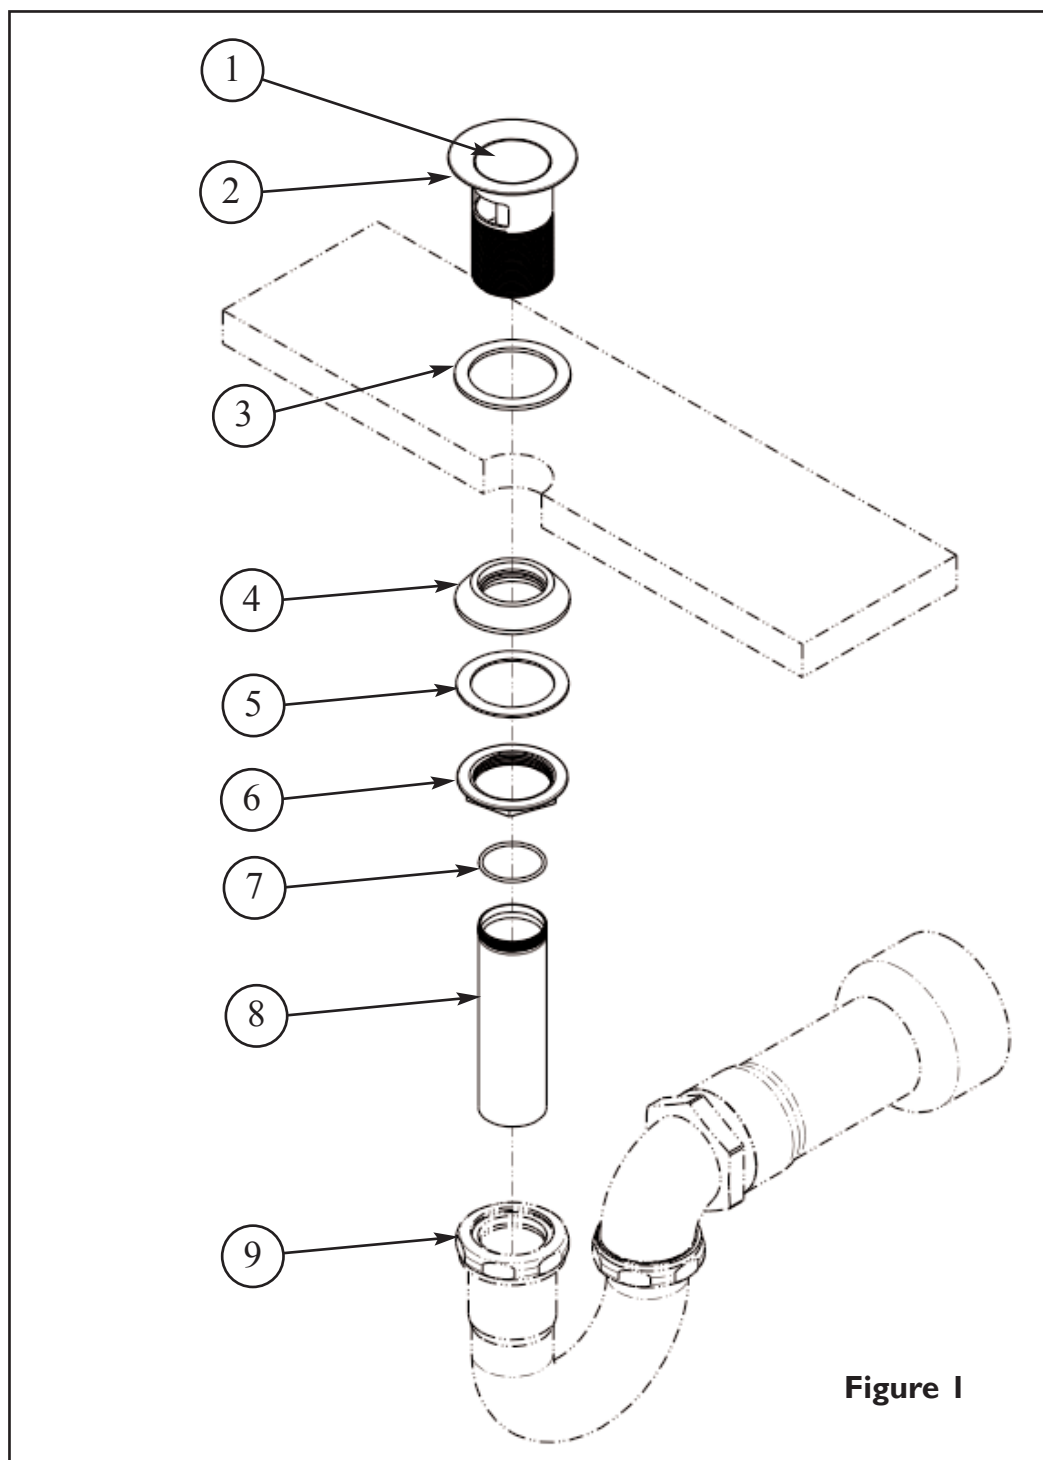

Figure 1
- Do not remove drain PLUG (1) from FLANGE (2). Place FLANGE (2) and white WASHER (3) through sink drain opening. (Clear silicone may be used in place of white washer.) From bottom side of sink, place cone shaped rubber WASHER (4) onto FLANGE (2) and slide up against sink bottom. Note: Cone portion of WASHER (4) to face upward. Next slide on clear flat WASHER (5) and secure with flange NUT (6). Assemble O_RING (7) to TAILPIECE (8) and attach to drain FLANGE (2). Attach TAILPIECE (8) to p-trap drain (9) (not included). See Figure 1.